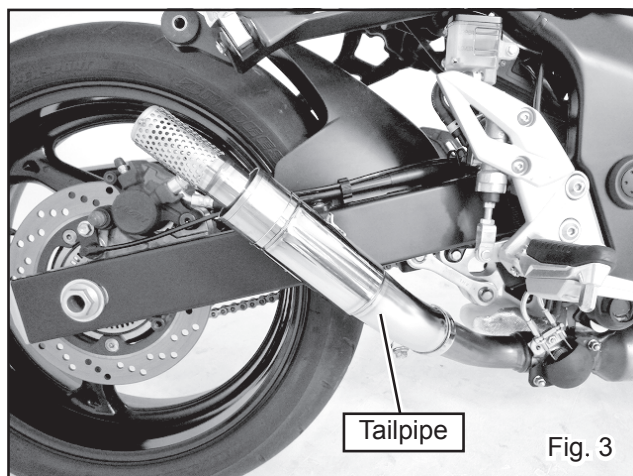

Fig. 3
5) Install Tailpipe onto stock header outlet. (See Fig. 3) Do not torque at this time.